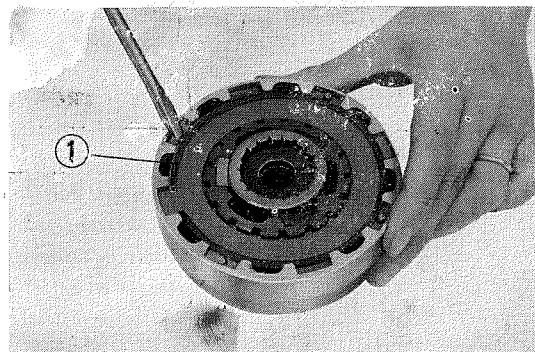

Fig. 41 ① Set-ring
5. Take off the set-ring to remove three clutch plates, two clutch friction plates and two clutch damper springs. Unscrew four 5 mm screws to remove four clutch springs and drive plate. (Fig. 41)